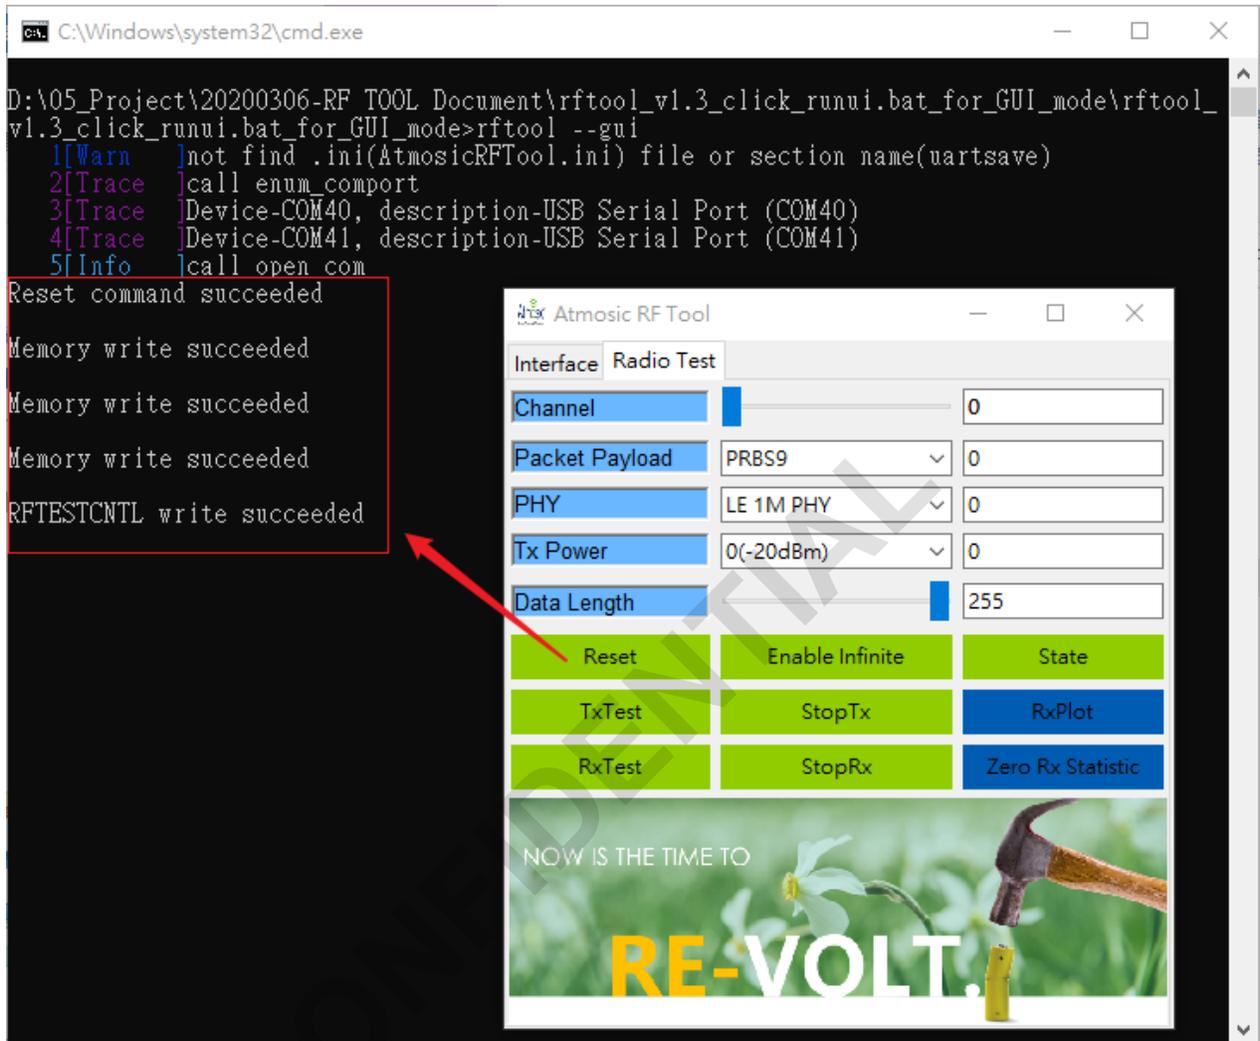

Figure 6 - Reset the ATM2/3 EVK
- Figure 6 - Reset the ATM2/3 EVK
Press the reset button. If the command window shows that the "Reset" command was successful, you can control the ATM 2/3 EVK via the Atmosic RF tool as Figure 6.